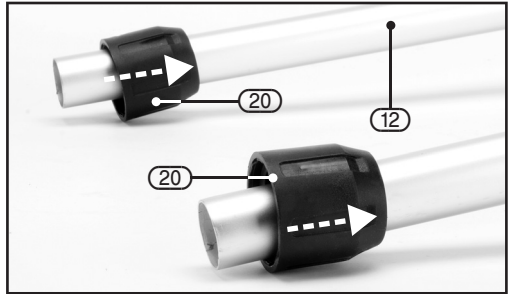

FIG.5
8.2 HANDLE ASSEMBLY (82583 only) – FIGS. 5 – 8
- Slide the 2 handle fixings (20) over the handle section (12).